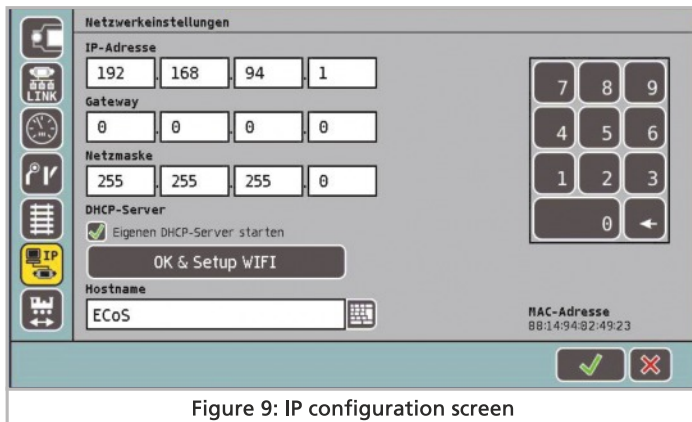

Figure 9: IP configuration screen
From the ECoS Configuration Menu, select the Setup 1 Tab and then select the IP button to access the IP configuration screen, Figure 9.
- Click/tick the "Spawn DHCP-Server" box, see Figure 9.